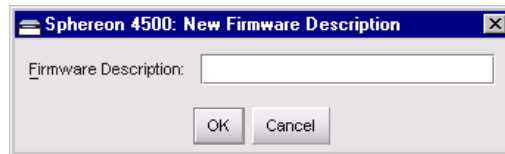

Figure 4-64 New Firmware Description Dialog Box
6. Select the desired firmware version file (downloaded in step 1) from the management server diskette drive or hard drive. Ensure the correct filename appears in the *File name* field and click *Save*. The *New Firmware Description* dialog box displays (Figure 4-64).